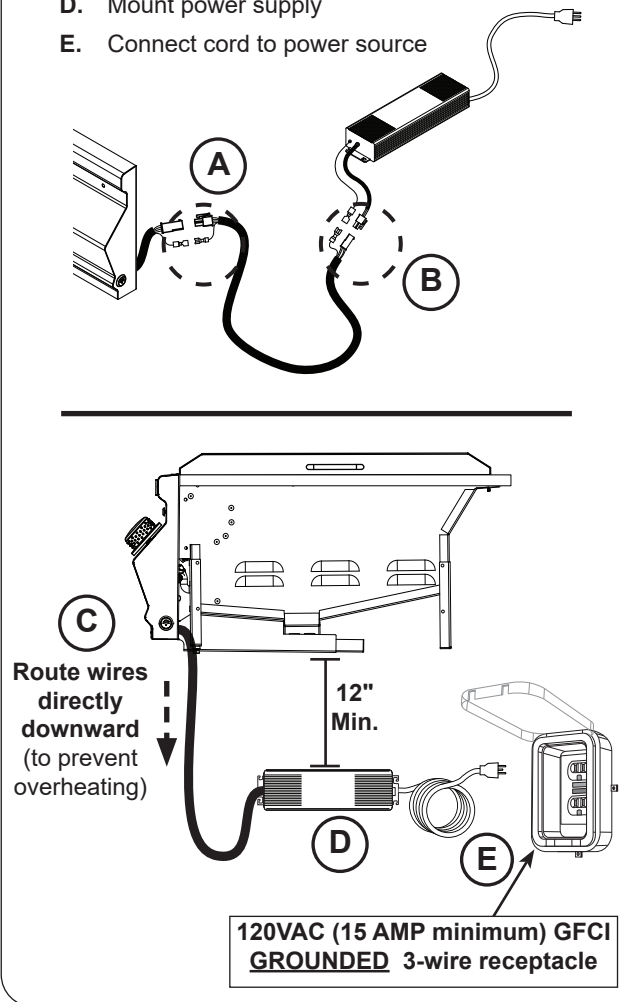

Fig. 29-1 Electrical installation
1. Locate the wire harness on the right side of the control panel. Cut the cable tie, and then connect the harness to the supplied wire harness extension. See Fig. 29-1, A.
2. Connect the wire harness extension to the power supply (see Fig. 29-1, B).
3. Route the wire harness extension below the control panel and directly downward. This will prevent overheating. **DO NOT** route the wire extension below the griddle. See Fig. 29-1, C.
4. Mount the power supply to the inside of the enclosure using appropriate hardware for your enclosure. See Fig. 29-1, D. **The power supply MUST BE:**
5. Connect the cord coming from the power supply to a **120VAC (15 AMP minimum) GFCI GROUNDED three-wire receptacle** (see Fig. 29-1, E). The GFCI receptacle must be a WEATHER-PROOF IN-USE COVERED RECEPTACLE.